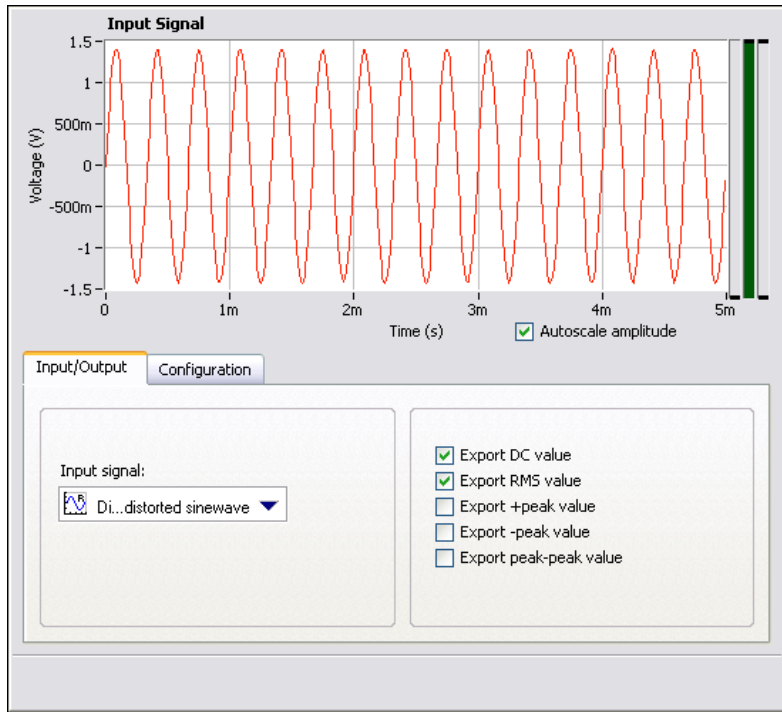

Figure 2-4. Amplitude and Levels Step Setup Tab
6. Select the **Input/Output** page to display the list of possible inputs and outputs for this step, as shown in Figure 2-4.